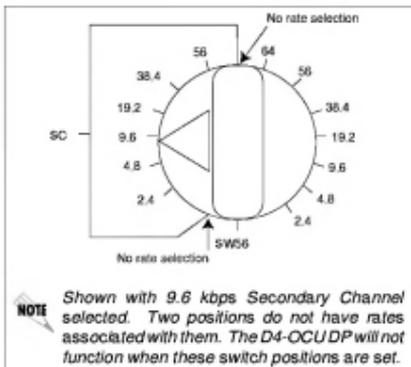

Figure 2. Rate Option Switch
The settings for the sixteen-position rotary switch select loop rates of 2.4, 4.8, 9.6, 19.2, 38.4, 56, SW56, or 64 kbps, and Secondary Channel (SC). Set the switch functions as illustrated in Figure 2.